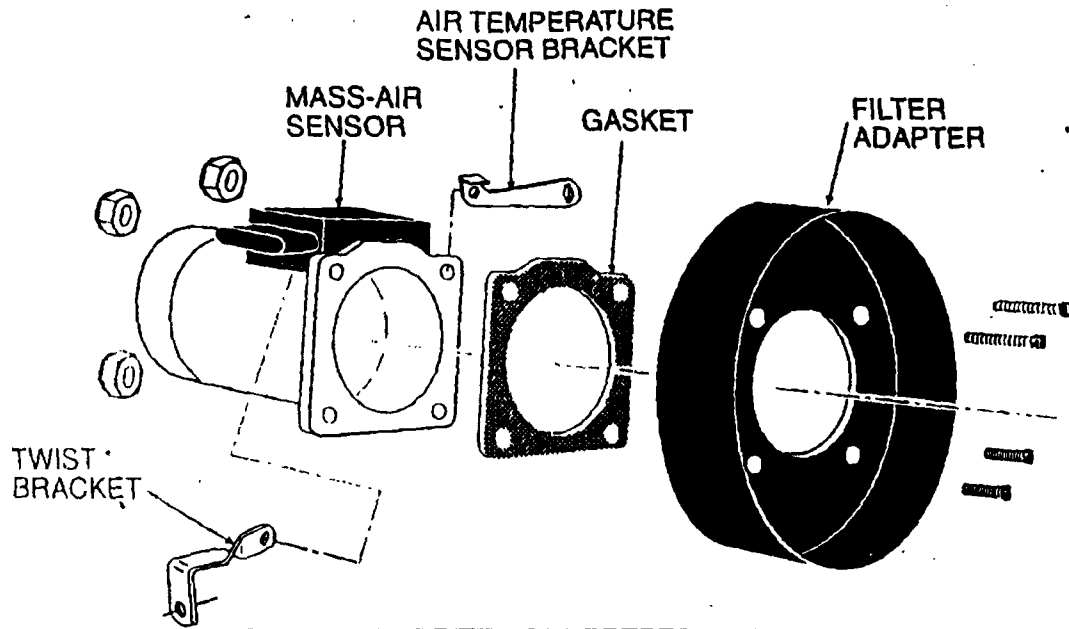

fig. 2
- 7) Assemble the mass-air sensor, gasket, adapter, mass-air bracket and air temperature sensor bracket as shown in (fig. 2) using the supplied hardware.
- 8) Attach the Filtercharger "L" bracket onto the filter as shown in (fig. 2), then, assemble the mass-air assembly and the Filtercharger assembly also shown in (fig. 2).